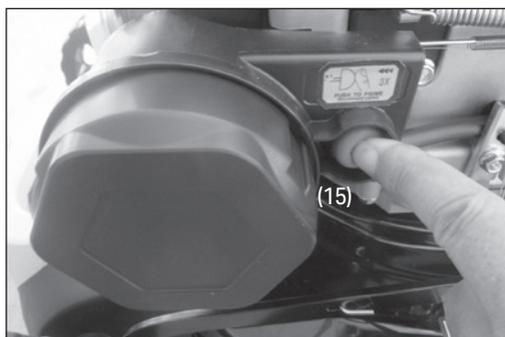

Fig.10
7.2 Starting the Lawnmower (Fig.10– Fig.13)